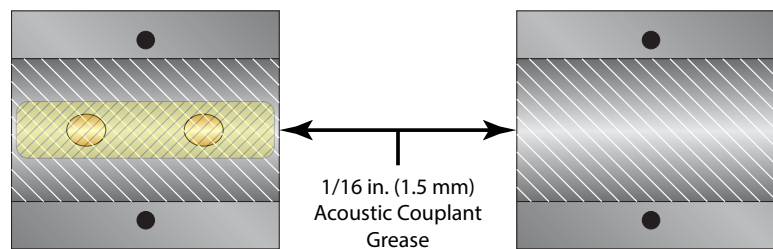

Figure 13: Application of acoustic couplant — DTTS/DTTC transducers
1. Apply a thin coating of acoustic coupling grease to both halves of the transducer housing where the housing will contact the pipe. See Figure 13.